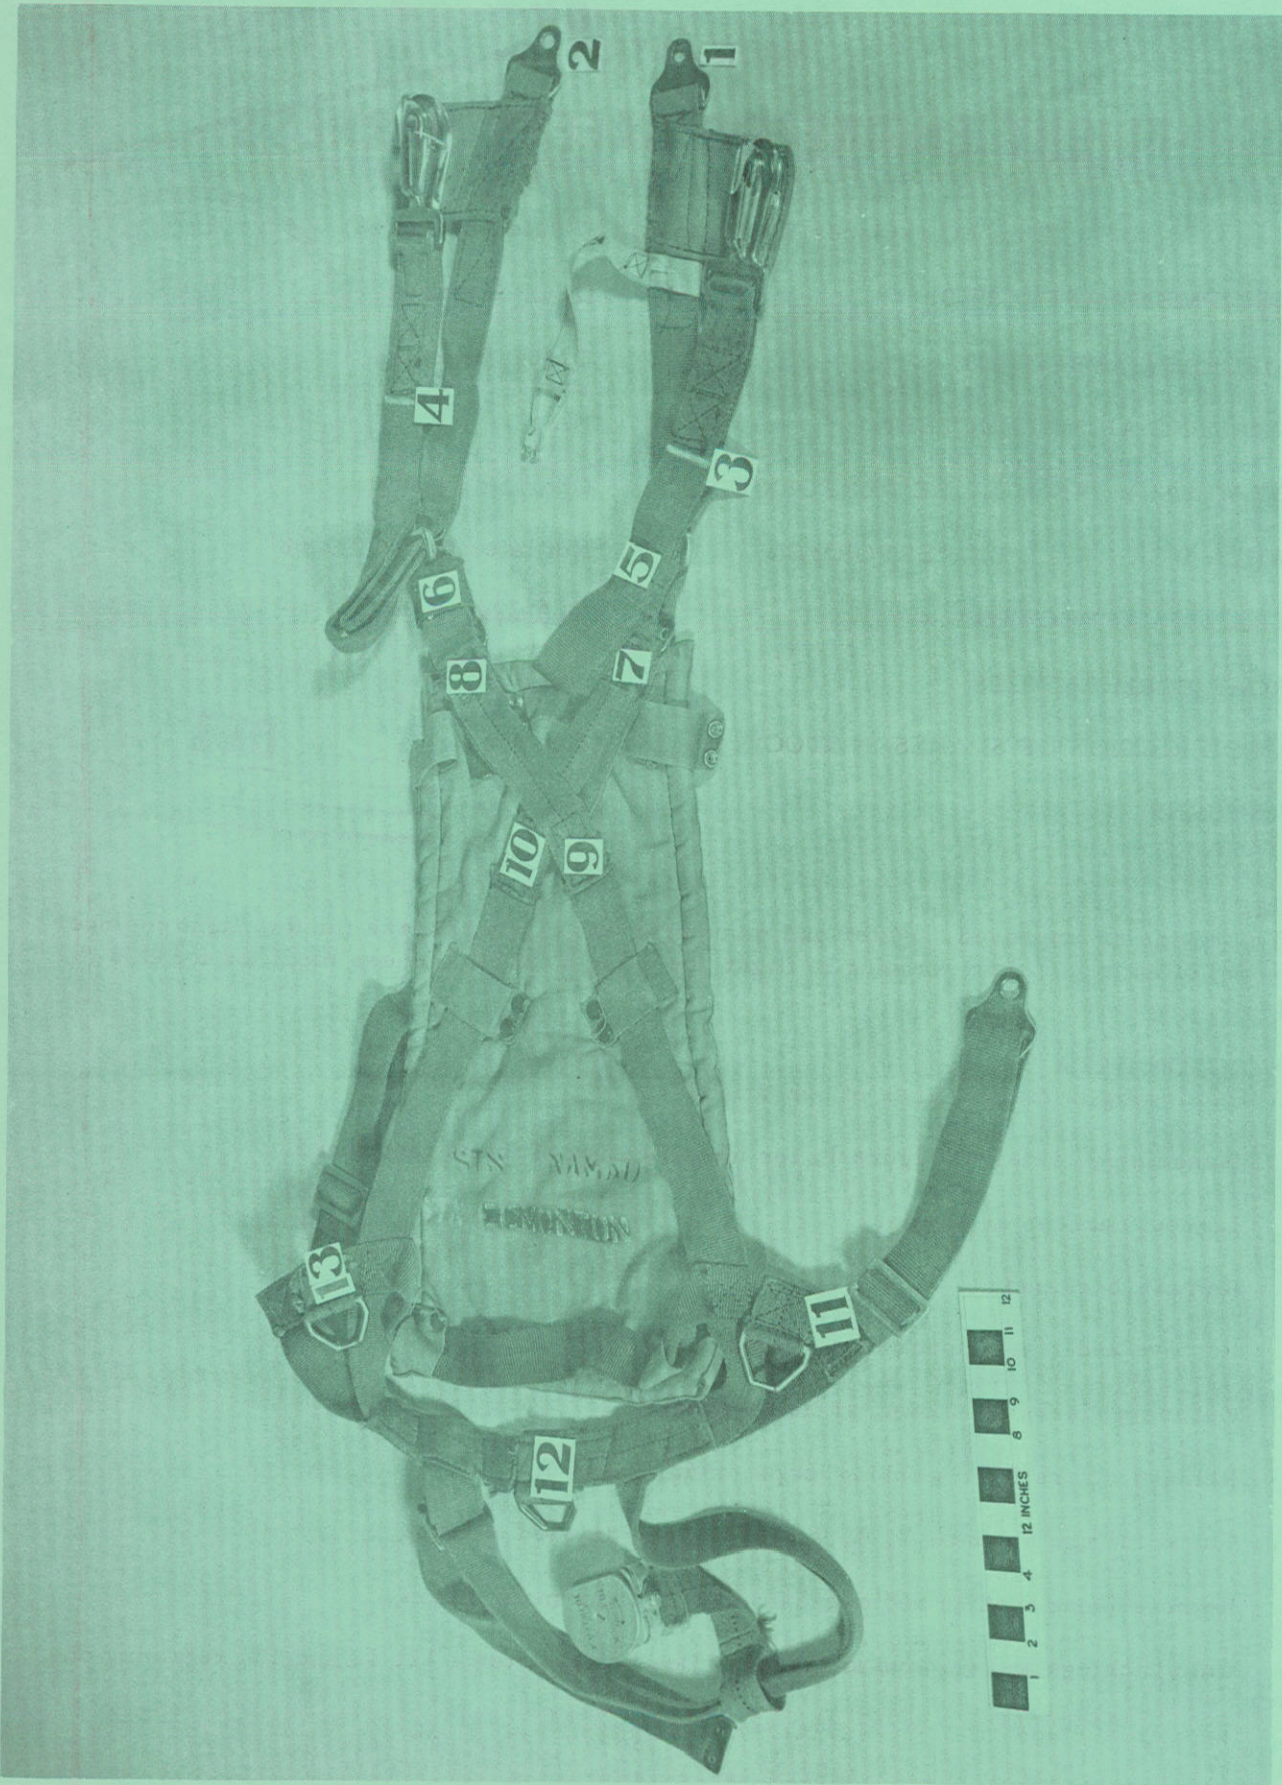

Figure 1
- (a) Disassembly, refer to Figure 1, for identification of items mentioned.
- (1) Lay out harness as shown.
- (2) Remove back pad.
- (3) Remove and retain upper lugs, items 1 and 2.
- (4) Cut main risers as shown, at items 3 and 4.
- (5) Remove risers from webbing loops, items 5 and 6.
- (6) Cut stitchings at items 7, 8, 9, and 10, and discard webbing.
- (7) Remove loose fittings and excess material from main risers.
- (8) Cut stitchings and remove anchorage "Dee" rings, items 11, 12 and 13, retaining one (1) "Dee" ring.